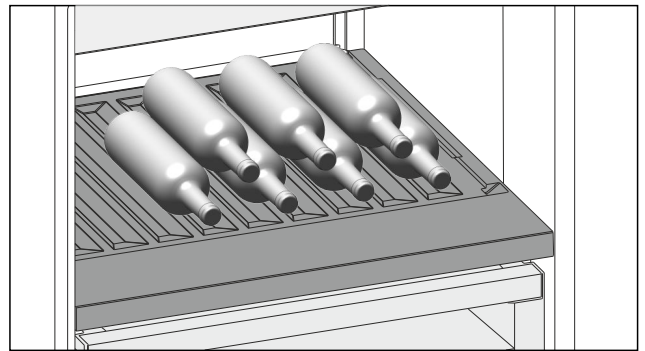

Fig. 210 Example illustration
- Place bottles in the back row with their bases against the back wall. (see Fig. 210)